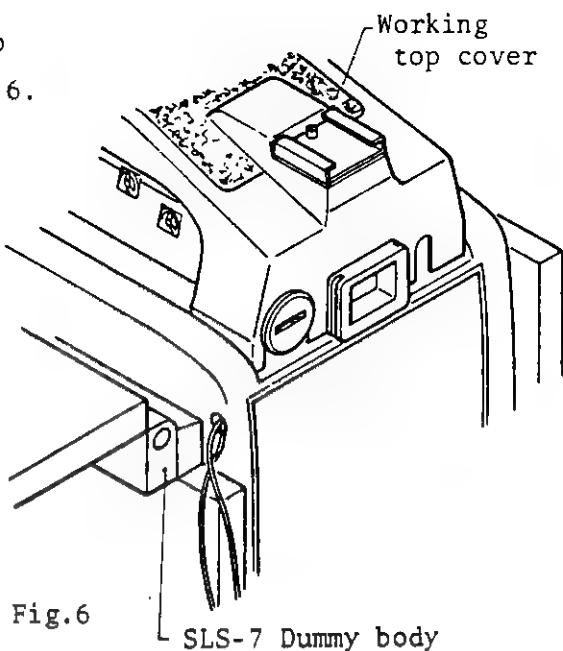

Fig.6
- 1) Remove top cover and attach working top cover temporarily as shown in the Fig. 6.